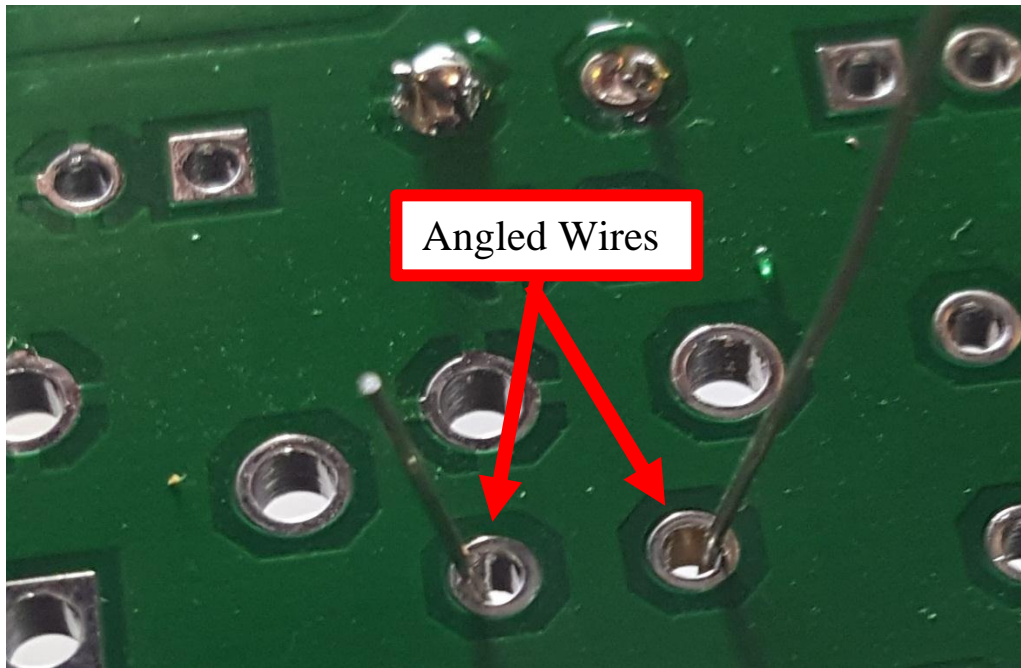

Figure 16 Angle Wires to Hold Component in Place for Soldering
- 3.3.3. Solder the component to the board using the soldering iron and soldering wire. Use the schematic in figure 16 to achieve proper results.